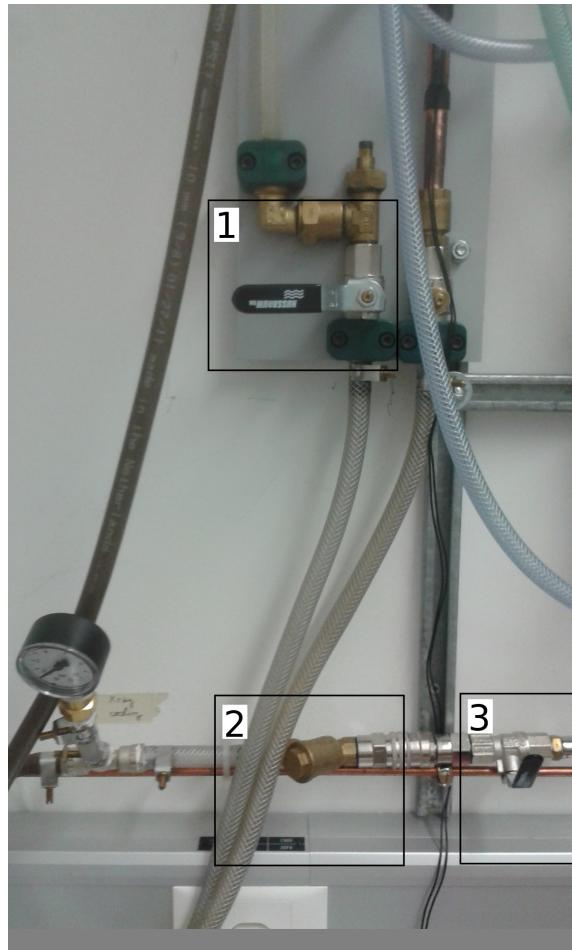

Figure 4: Picture of the water supply for the X-ray setup. Water supply 1 feeds the climatic chamber, supply 3 is used by the X-ray tube and filtered by 2.
- Open valve entirely for X-ray cooling (3 on Figure 4).
- Open valve for climatic chamber cooling (2 on Figure 4) until the pressure is about 2 bar (check with left barometer in the X-ray setup). The water pressure is relevant as the minimum temperature to which the chamber can be cooled down to depends strongly on it.
- **Error message saying that the water flow is too low.** If it was forgotten to open the water valve, do this and start over. Otherwise, the flow is too low due to dirty filters. Check external filter on the wall (2 on Figure 4) first which is easier to clean. Unscrew and clean the filter with water and dry air. If this does not solve the issue, one needs to clean the built-in filter in the X-ray tube